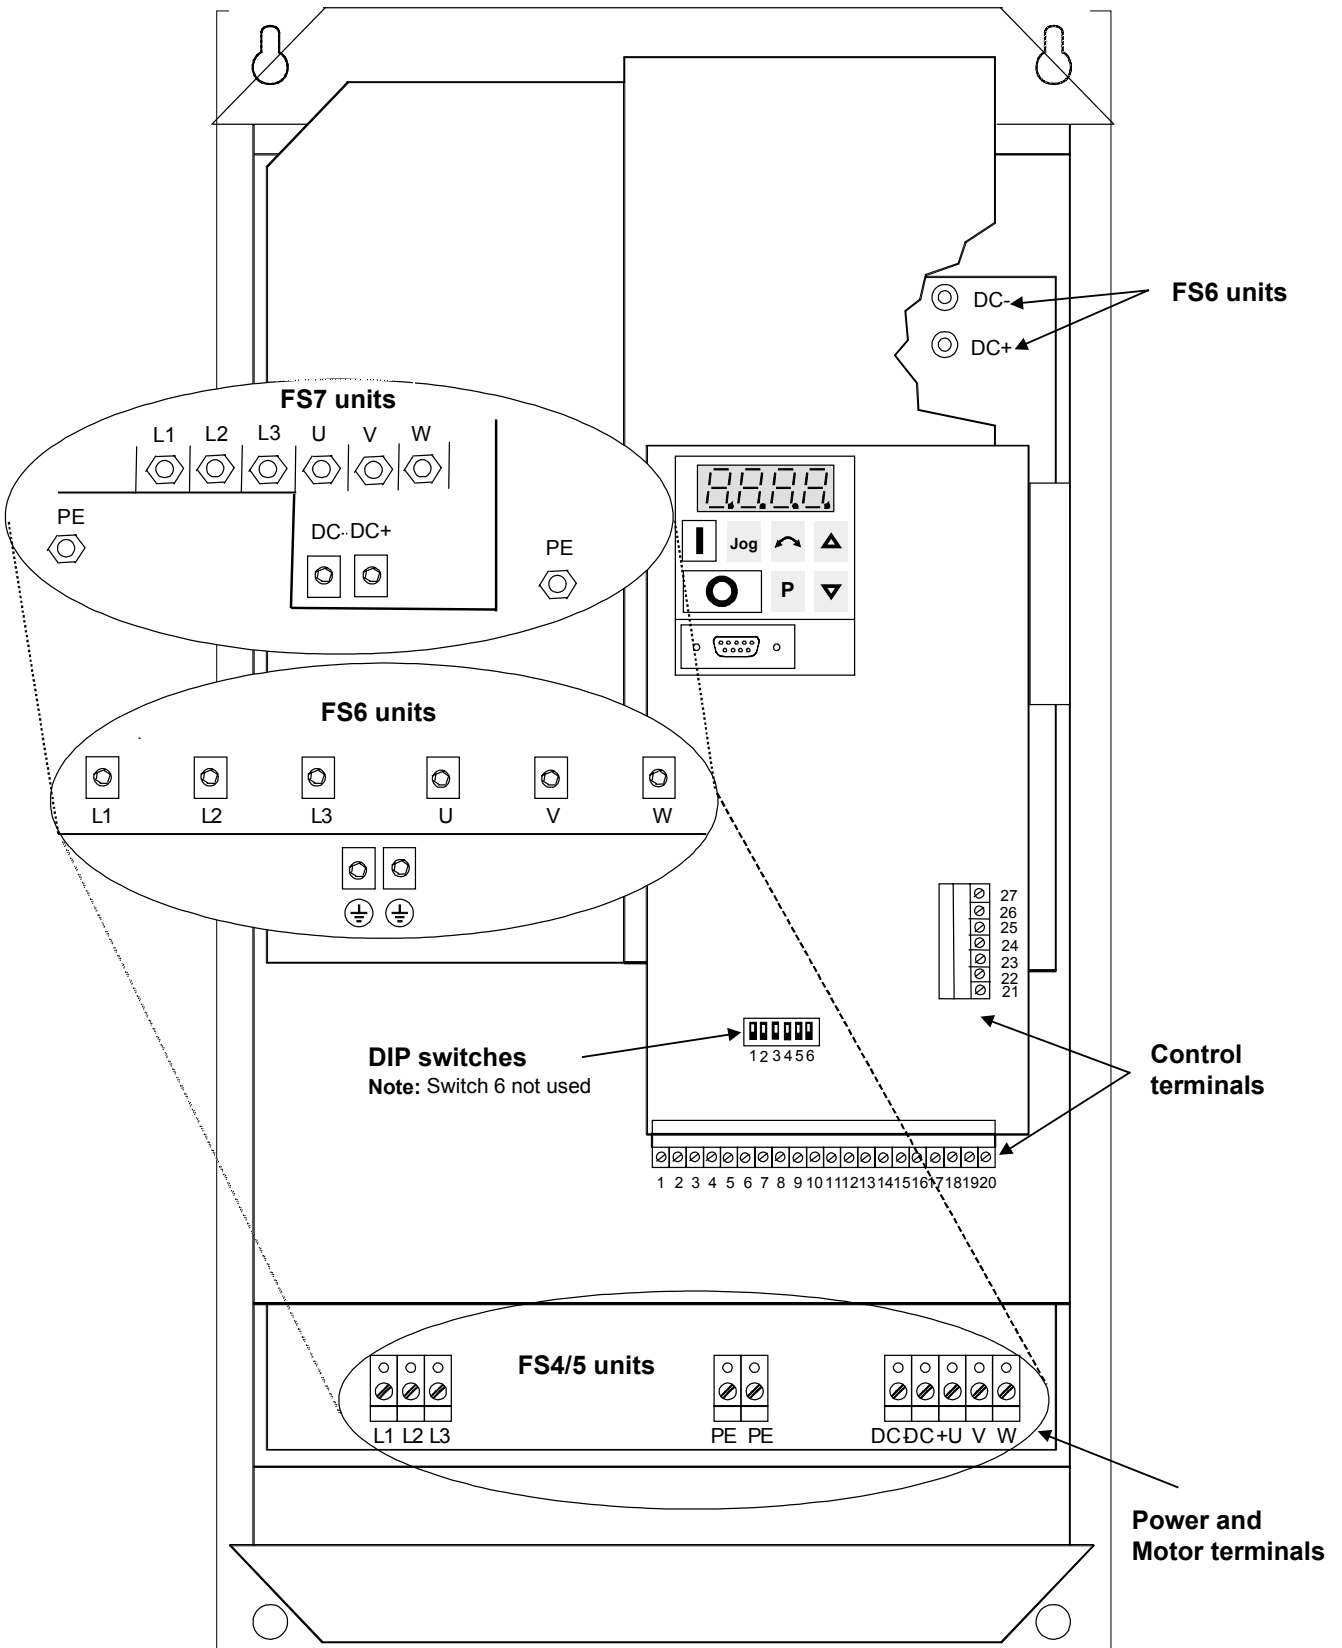

Figure 3.2.1: MIDIMASTER Vector Connectors
Read the Wiring Guidelines given in section 1.2 before commencing installation. The electrical connectors on the MIDIMASTER Vector are shown in Figure 3.2.1.
2. Connect the power input to the power terminals L1, L2, L3 (3 phase) and earth (PE) (shown in Figure 3.2.1) using a 4-core cable and lugs to suit the cable size. For the cross-section of each core, see section 8.
3. Use a 4-core screened cable and suitable lugs to connect the motor leads to the motor terminals U, V, W and earth (PE) (shown in Figure 3.2.1).
Control connections to the MIDIMASTER Vector are made via two terminal blocks located as shown in Figure 3.2.1. The terminal blocks are of a two-part design. The part containing the screw terminals can be unplugged from it's housing before wires are connected. When all connections to the terminals have been made (as shown in Figures 3.2.1 and 3.2.2) and secured, the terminal block must be plugged firmly back into its housing.
- for Frame size 4, 5 and 6 the front cover is removed (see Figure 3.2.1).
- for Frame size 7 the lower front cover is removed (see Figure 3.2.1).